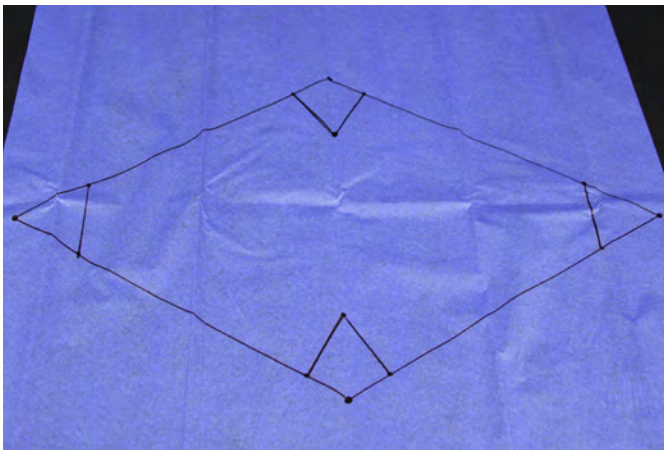

Fig. 11 Tissue paper template
7. See Figures 11, 12 and 13 shown below. This is how your tetrahedron should now look: